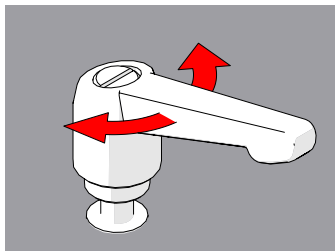

Fig. 51 - Rotate handle
2. Continue to pull while rotating the lever in the appropriate direction (Fig. 51).